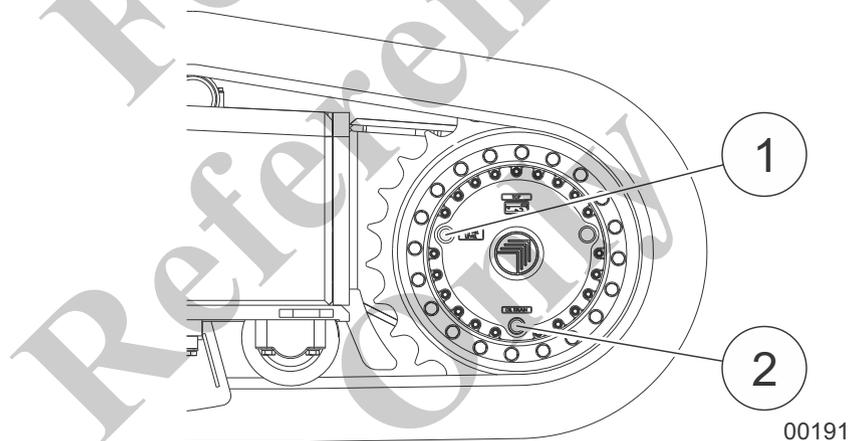

Fig. 218 Lubricating points (1) and (2) of the travel drive
1	Park the machine on an even and hard surface so the lubricating points (1) and (2) are as shown in Fig. 218.